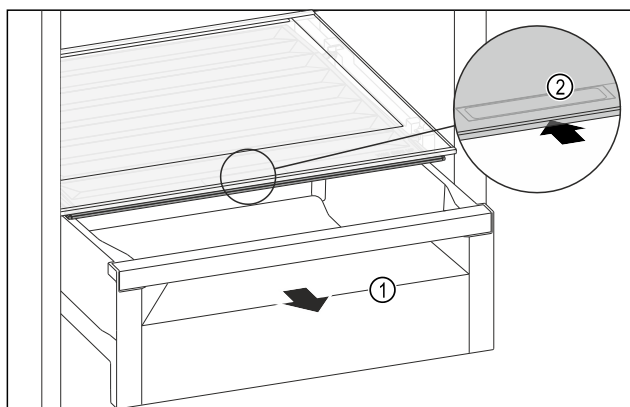

Fig. 221
- Pull out the drawer Fig. 221 (1).
- Grasp the recessed grip Fig. 221 (2) on the compartment lid and push the compartment lid backwards at the same time.